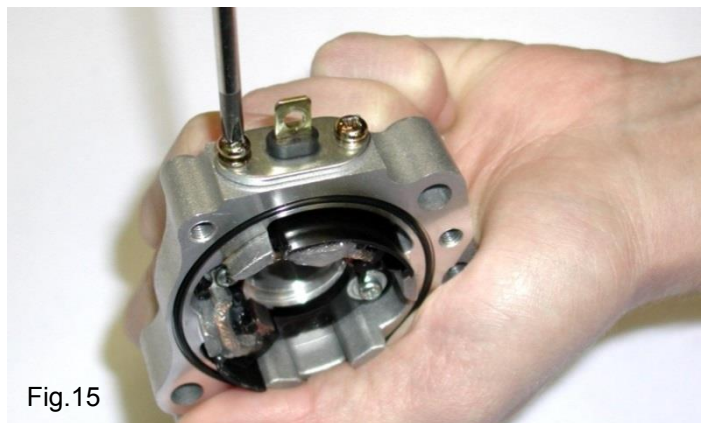

Fig.15
- REINSTALL THE PLATE AND FIX IT WITH THE 2 SCREWS M4 (See Fig.15).